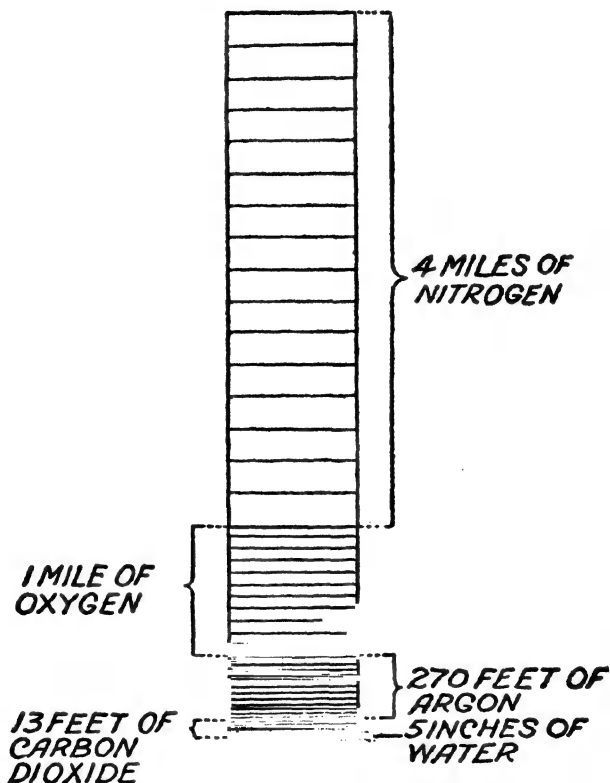

FIG. 1. WHAT AIR IS MADE OF
The atmosphere, or air, is made up of two gases, namely, (1) *oxygen* (O) and (2) *nitrogen* (N), and these are mixed in the proportion of one part of oxygen and four parts of nitrogen by bulk. While these two elements make up the larger part of the atmosphere the latter always has small amounts of other substances in it such as *carbon dioxide* (CO_2), or carbonic acid gas as it is commonly called, water vapor, ammonia (NH_3), a trace of *argon* (A), *neon* (Ne), *krypton* (Kr), and some other rare gases.* See Fig. 1.